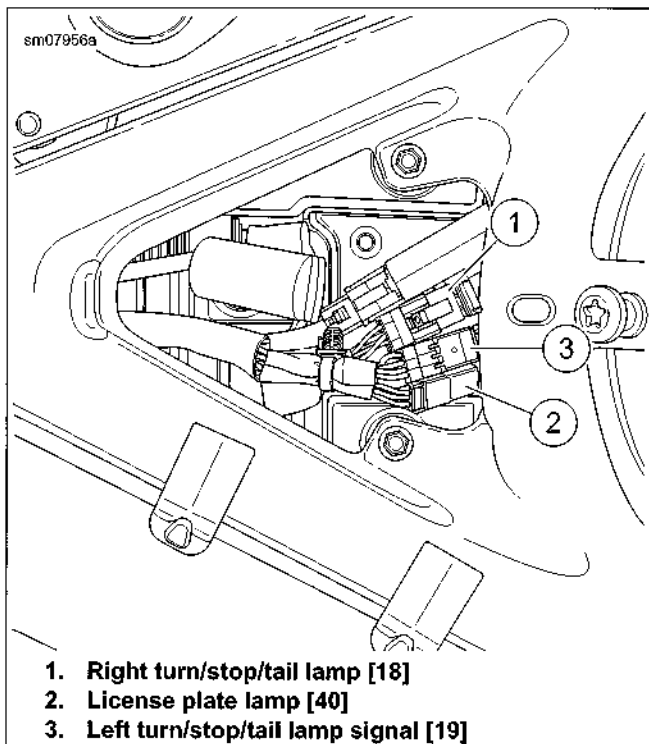

Figure 6-74. Rear Lighting Harness Connectors: XL 883N, XL 1200X/V
6. See Figure 6-74. Separate turn/stop/tail lamp harness connectors [18], [19] (3, 1).